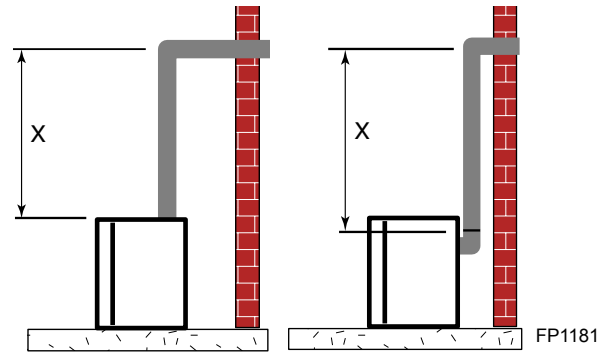

Figure 33 -
Place fireplace into position. Measure the vertical height (X) required from the base of the flue collars to the center of the wall opening. *Figure 33*